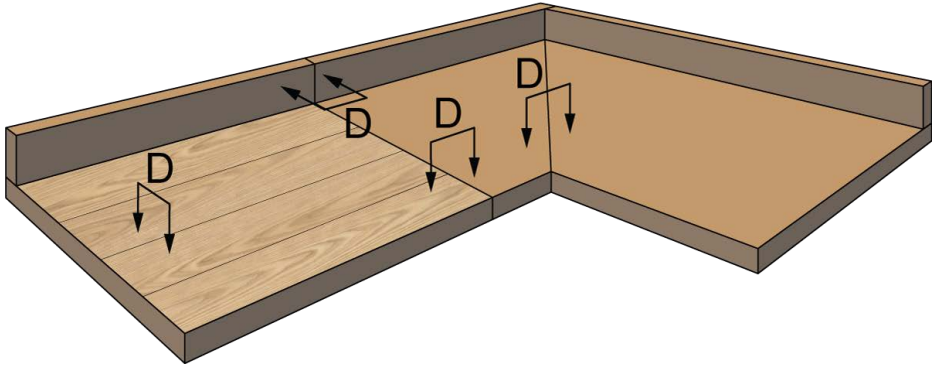

Figure 47 - Gaps at Butted Edges
- g) Gaps at butted edges (See Figure 47, D) glued to the same piece of core shall not exceed: